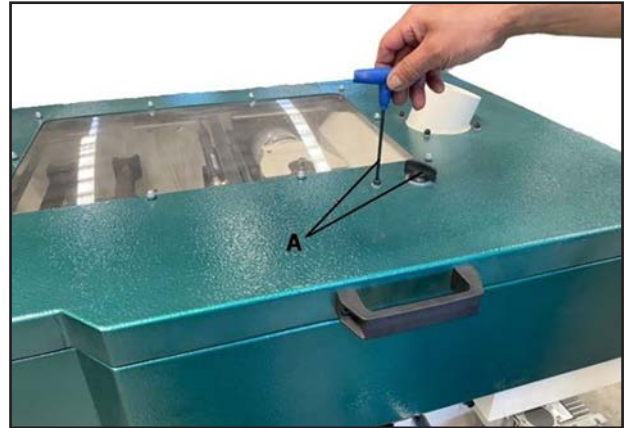

**Figure 18.** Location of top door components.
2. Remove the button head screw and turn the door knob (A) clockwise to unlock the top door (see **Figure 18**).